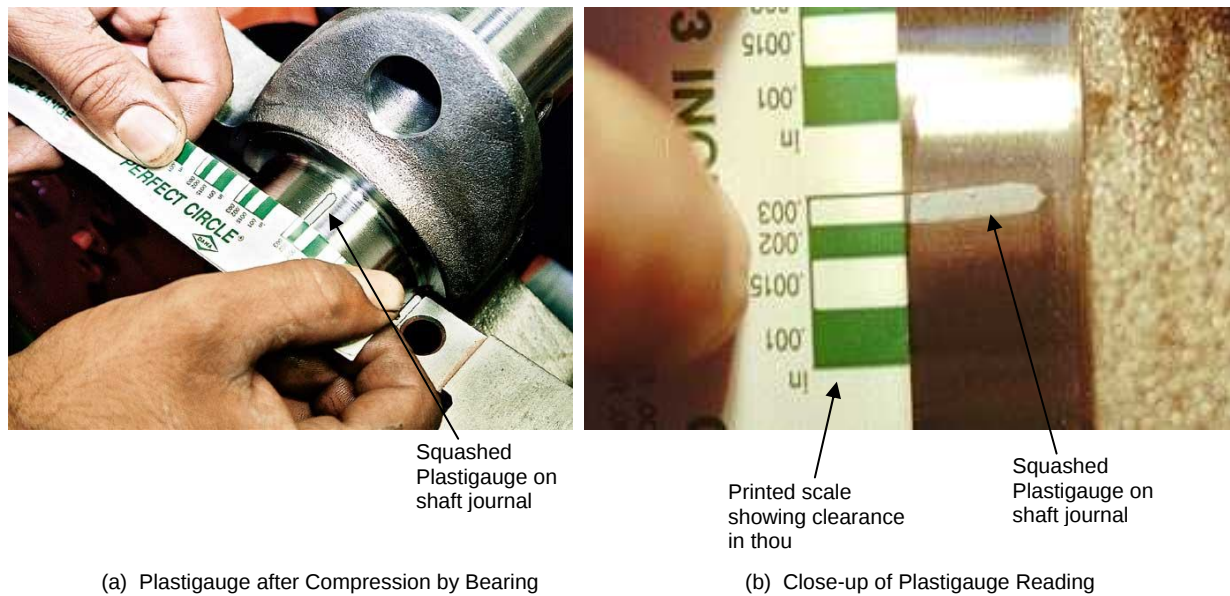

Figure 4.22: Using Plastigauge to Measure Clearance
4. Compare the width of the squashed Plastigauge with the scale printed on the packet as shown in **Figure 4.22**